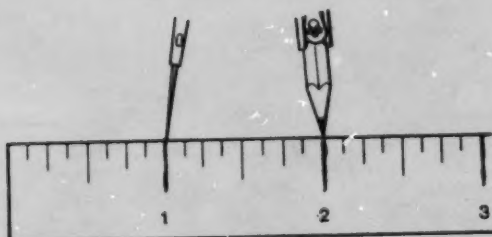

Figure 3-11 Adjusting a pencil compass
1. Place the point of the metal leg on the 1-inch mark of the rule (*Figure 3-11*).
2. Open the pencil leg until the pencil point reaches a distance equal to the radius of the circle you wish to draw (*Figure 3-11*). The distance between the compass leg and the pencil point equals the radius (half the diameter) of the circle.